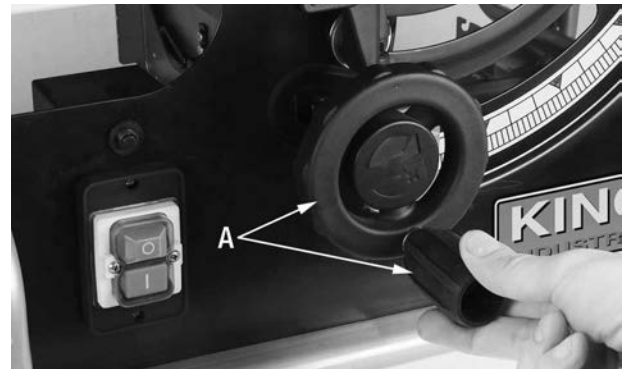

FIGURE 4
Remove the table insert (A) Fig.5 from the table top by unscrewing the pan head screw (B) and then pulling it upwards. Turn the blade height adjusting handwheel (A) Fig.4 counterclockwise and raise the blade to its highest position above the table.